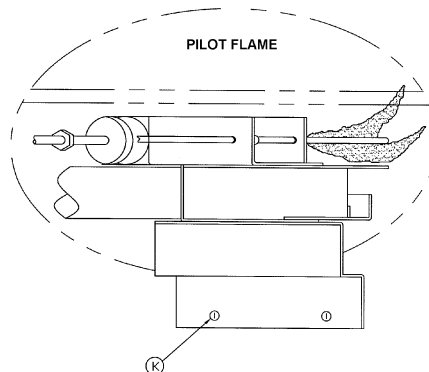

Figure 8
B. Pilot Flame - The pilot flame should engulf the tip of the thermocouple as illustrated in Figure 8. Correct as needed.